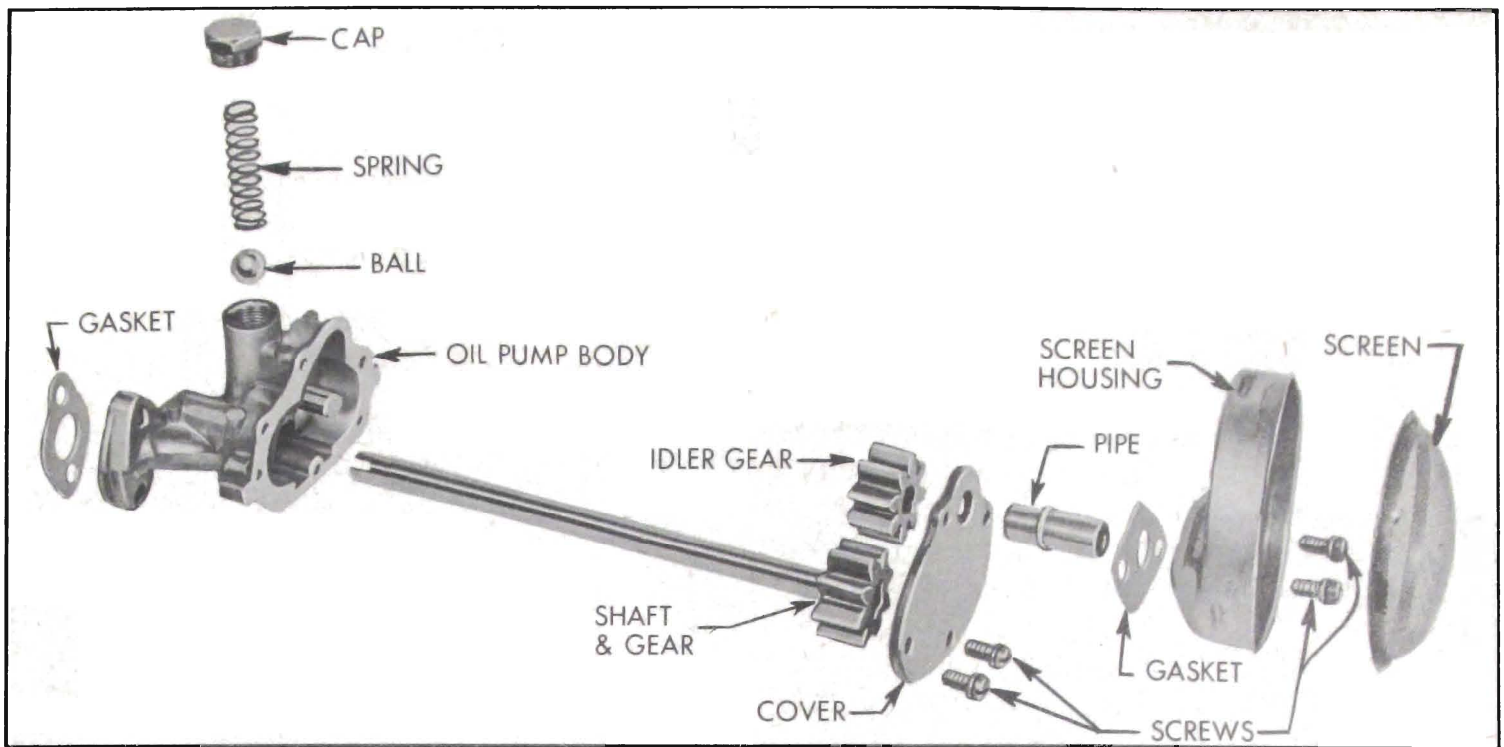

Figure 2-39—Oil Pump Exploded View
1. Remove screen and screen housing. Remove gasket, pipe and cover from pump body. Remove gears. See figure 2-39.